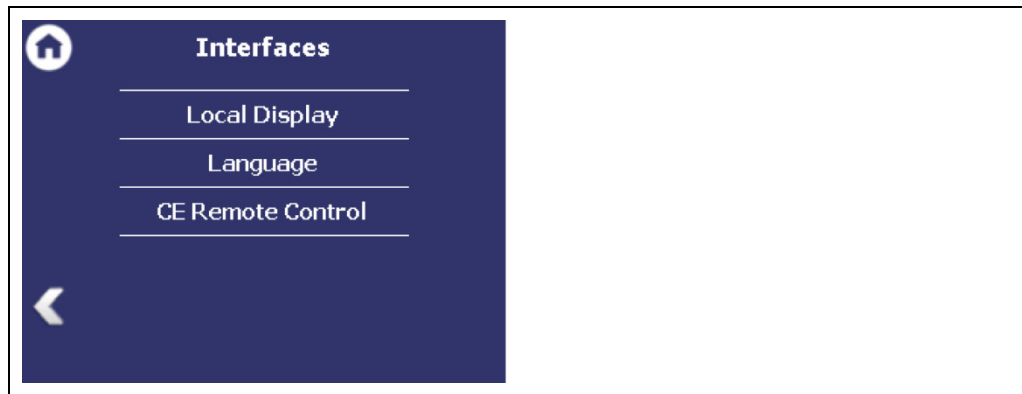

Fig. 30 Menu "Interfaces"
1. Click on the arrow key (Fig. 30, item 5) in order to set the date.
- The calendar is opened (Fig. 30, item 6).
2. Click on the year number (Fig. 30, item 8) in order to enter the year.
3. Set the month (Fig. 30, item 7) by clicking on the arrow keys.
5. Change the time by clicking on the arrow keys (Fig. 30, item 4).
6. Click on <Apply> (Fig. 30, item 3), to accept the date and time settings.